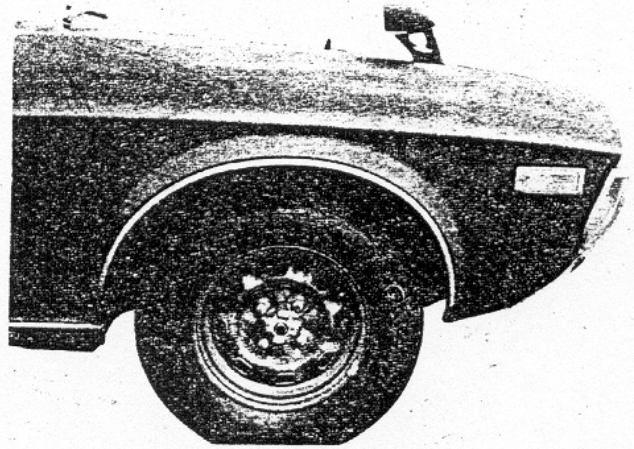

Fig. 14-125 Removing front fender panel
3. Remove the seven fender panel attaching bolts shown in Fig. 14-125 and separate the sealed fender